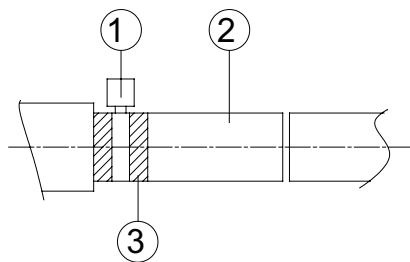

Fig 4.3.2
- 1) Insert the drain hose into the drain hole and tighten it with tapes, as shown in Fig 4.3.2.
- ① metal clamp(accessory)
- ② drain hose(accessory)